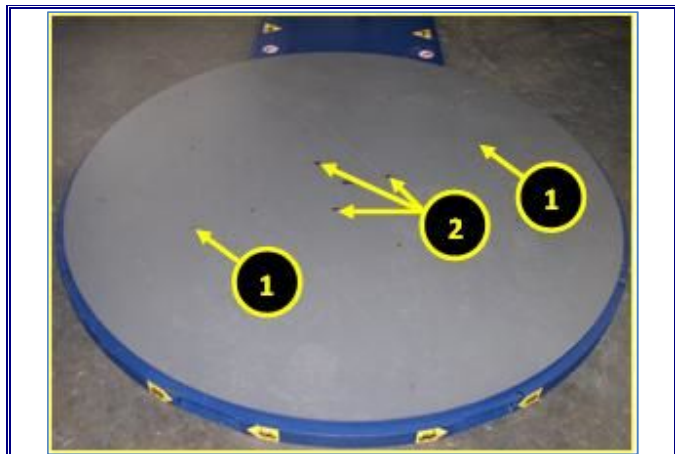

Figure 7.27
1. Install the eye bolts on the turntable in the tapped holes. (Figure 7.27)